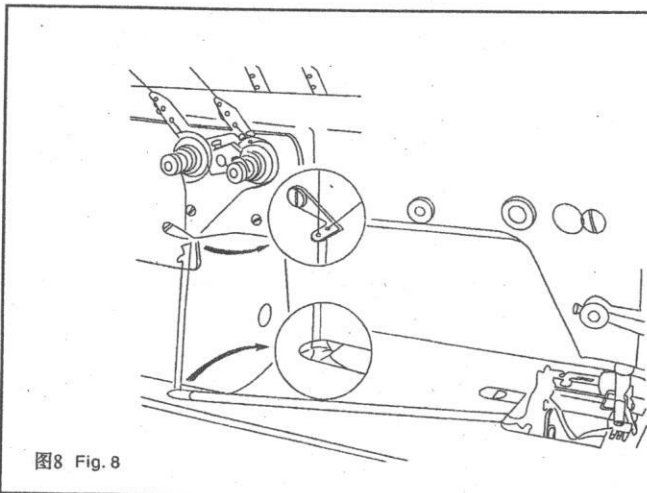
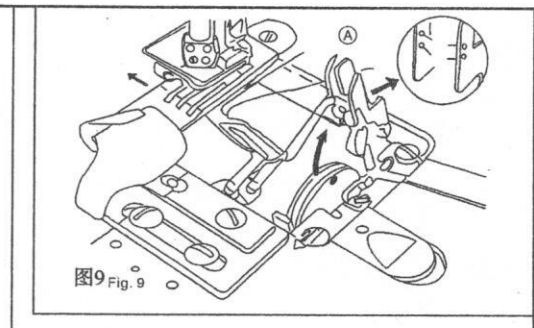

图8 Fig.8
图9 Fig.9
九. 底线的穿法 (图8. 图9) The threading of bobbin thread (Fig.8,9)
- 1、按 (图8) 所示穿过夹线器单面导线板, 如用捻度大的线或缝纫时需送料距大的时候应穿二个孔。
- 2、把 (图9) 中的扳簧朝操作人员侧拉, A就向上抬起。
To make bobbin thread going through the eye of the needle in the order as shown in (Fig.8 and 9)
- 2) Pull the spring toward the operator, as shown in Fig.9 and part A will rise upwards.
- 3) When threading the looper, the thread shall be made go through the eye of the needle with a tweezer as shown in Fig.9 and 50mm of remaining thread be pulled out.